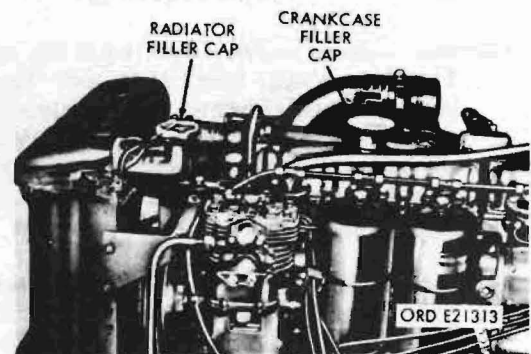

Figure 39. Crankcase and radiator filler caps.
(24) *Crankcase radiator filler caps* (fig. 39). The crankcase filler cap, located on top of the engine, is removed to add oil when required. The radiator filler cap, located at top of the radiator (left side for multifuel, right side for gasoline) is removed to check coolant level or add coolant. The cap maintains pressure in the cooling system.